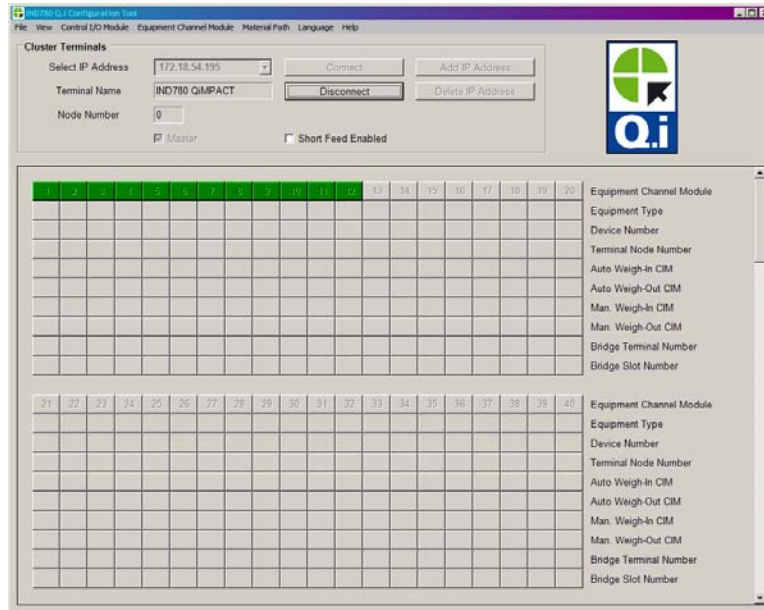

Figure 2-4: Q.i Configuration Tool Main Screen, Connected
3. Click on the **Connect** button to establish communication with the terminal. Once the terminal is connected, the Configuration tool’s screen will update and resemble the screen shown in Figure 2-4. All menu bar items will now be active and the Terminal Name and Node Number will now be displayed. Each configured Equipment Channel Module (ECM) column is populated with module numbers.